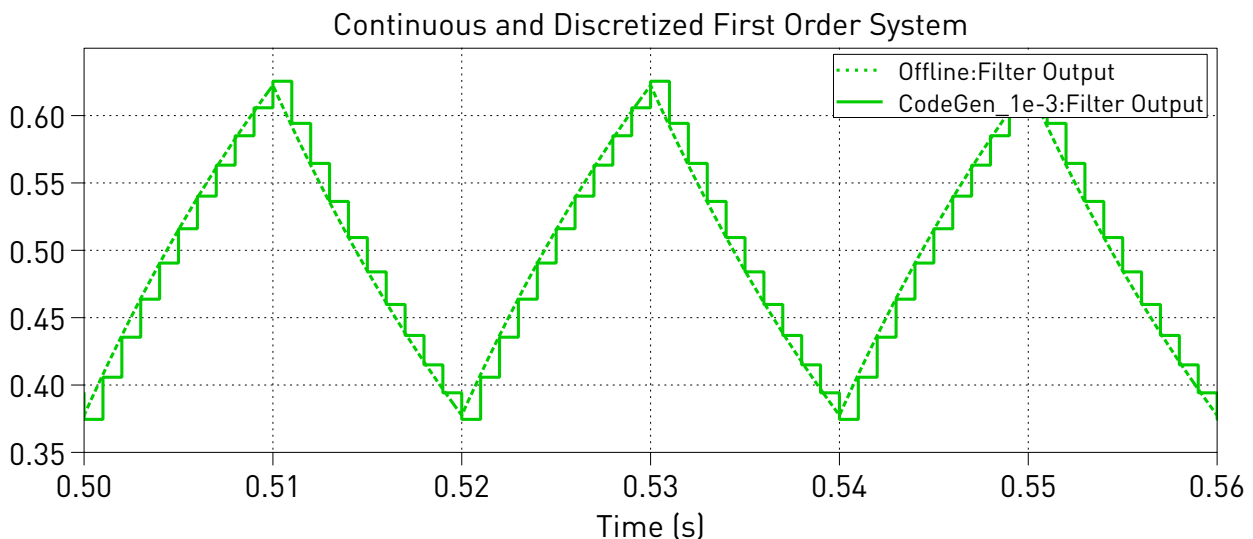

Figure 10: Comparison between “Offline” and “CodeGen” results
- 6** Run the simulation and save all new Scope traces as “CodeGen_1e-3”. Notice the Scope within the Subsystem did not update. Open the Scope on the top-level schematic and zoom into the waveforms until the impact of system discretization is apparent. Figure 10 shows the output from the simulation.